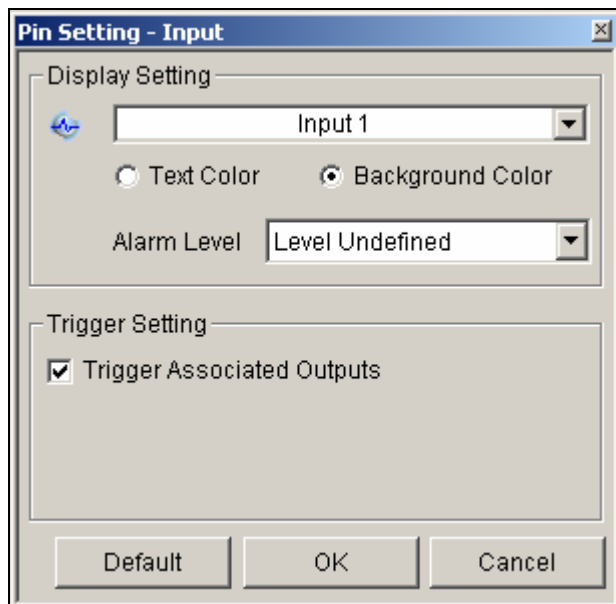

Figure 2-17
- **Use User-defined Text:** Allows you to modify the text of Alarm Level (Figure 2-17).